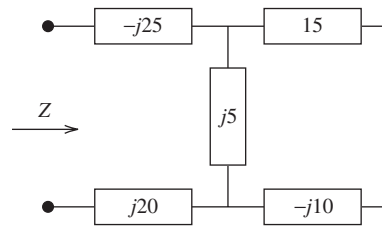

FIGURE P6.25 Circuit for Problem 6.25.
- 6.25** (A) Find Z in Figure P6.25.